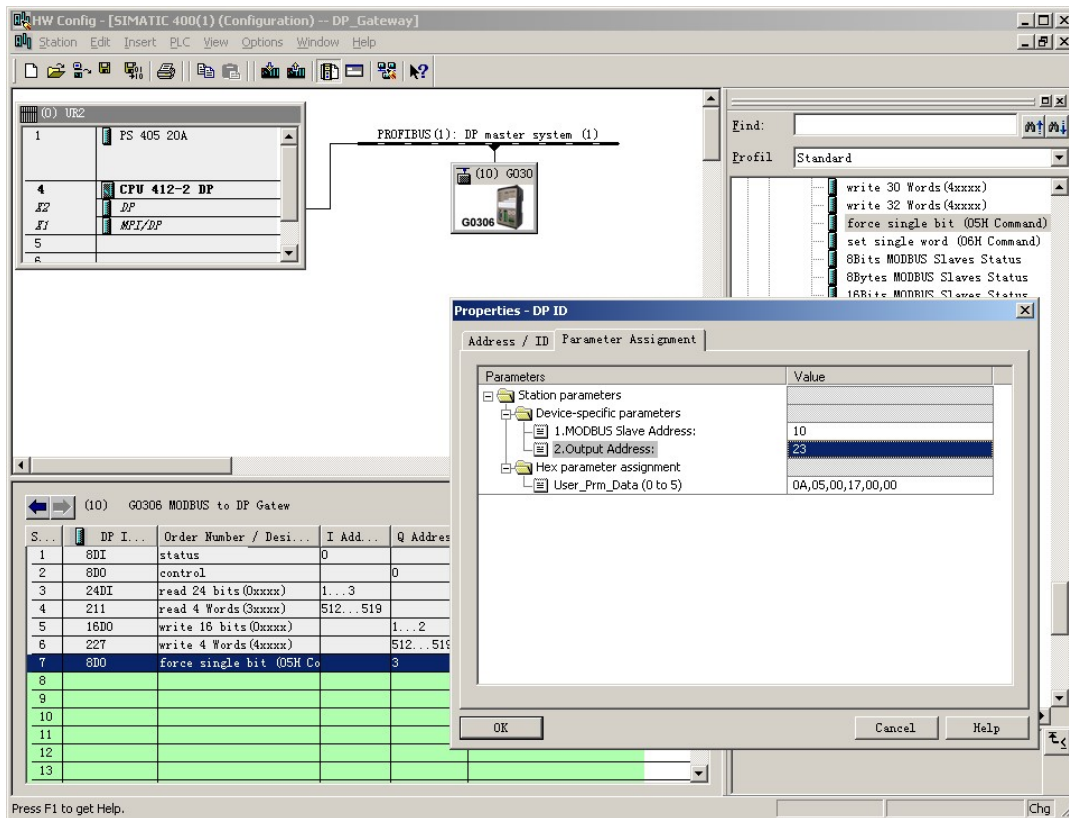

Figure 29 Configure "force single bit (05H Command)" module user parameters
b) Configure the user parameters of the "force single bit (05H Command)" module, as shown in Figure 29:
"1.MODBUS Slave Address:" ⇒ Type the Modbus slave address 10, as shown in Figure 29.
"2.Output Address:" ⇒ Type in the output address 00024 of the coil 0xxxx to be written, and set the address to 23 ⇒ "OK", as shown in Figure 29